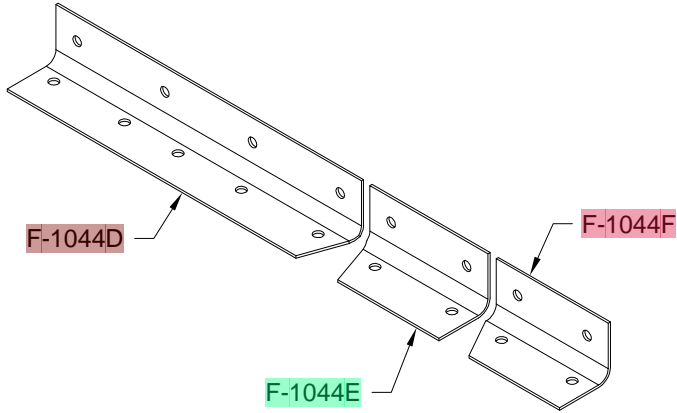

FIGURE 4: BREAK APART ANGLES
Step 4: Break apart the F-1044DEF Angle into individual F-1044D, F-1044E, and F-1044F Angles as shown in Figure 4.